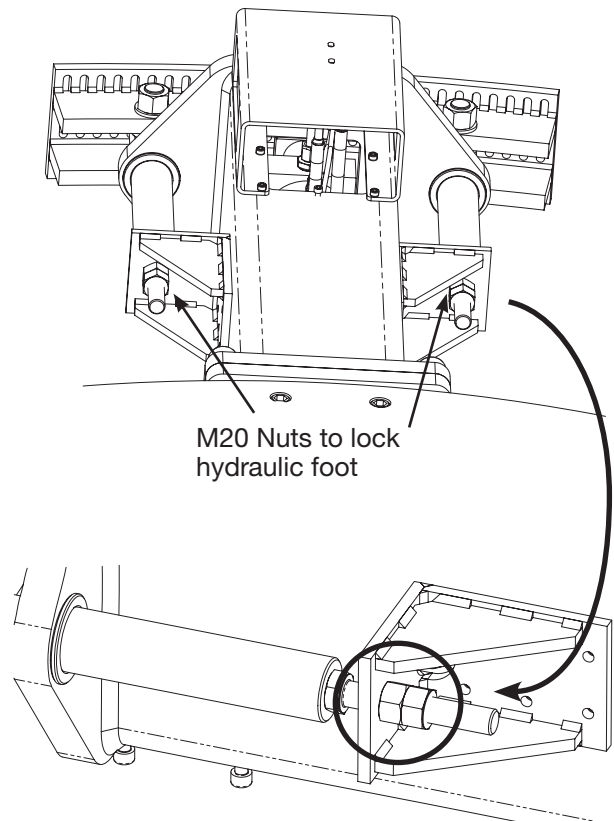

Figure 14: Hydraulic clamping locks on base
10. Wind the 4 x M20 Nuts on each hydraulic clamping foot (2 on each side) to lock the hydraulic rams in place. See figure 14.